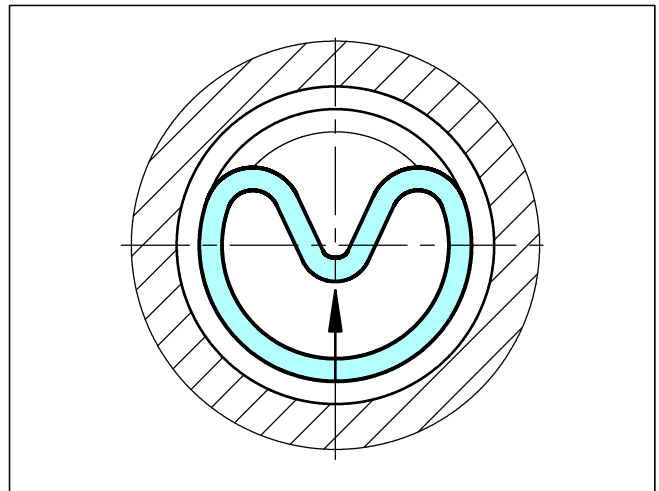

Figure 87 Inserting the seal ring into the closed groove
- Place the seal ring in compressed form into the groove and push against the O-Ring in the direction of the arrow (Figure 87)